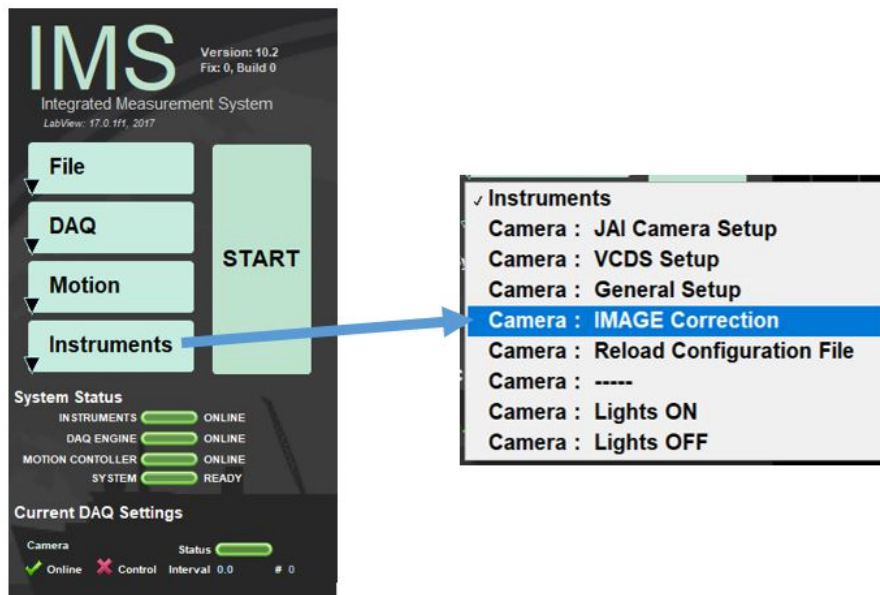

Figure 33. Selecting Image Correction Window
1. In the IMS Main Panel go to Instruments > CAMERA: IMAGE Correction (Figure 33)